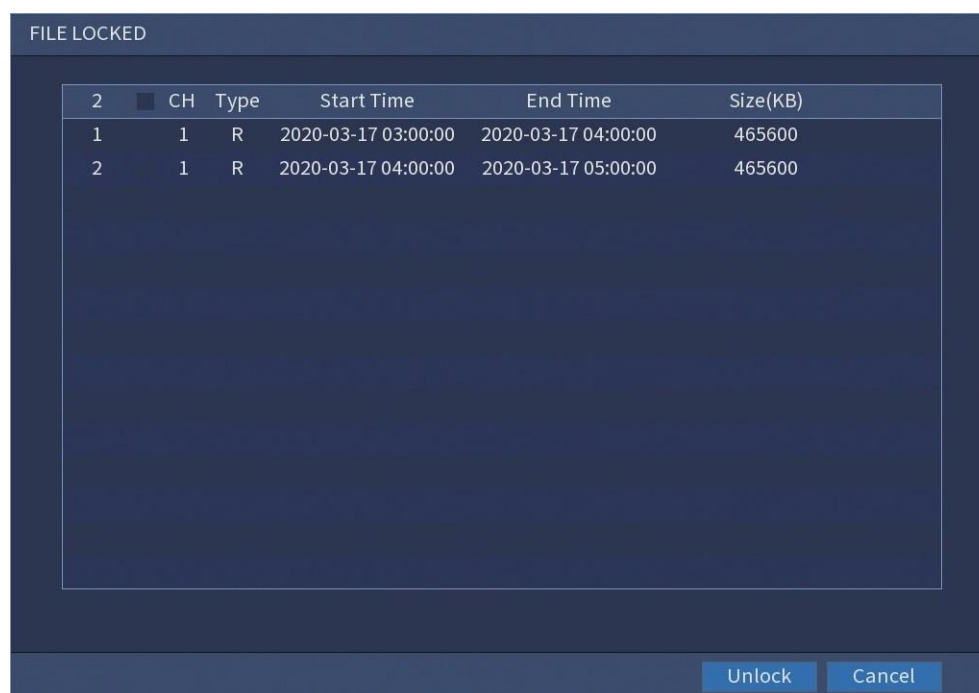

Figure 5-77
- To unlock the recorded video, in the **FILE LOCKED** interface, select the video, and then click **Unlock**. See Figure 5-77.